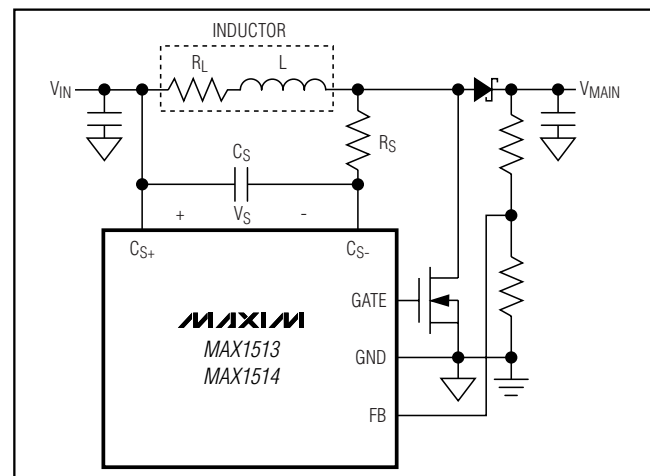

Figure 5. Step-Up Regulator Using Lossless Current Sensing
The lossless current-sense method uses the DC resistance (DCR) of the inductor as the sense element. Figure 5 shows a simplified step-up regulator using the basic lossless current-sensing method. An RC network is connected in parallel with the step-up inductor (L). The voltage across the sense capacitor (Cs) is the